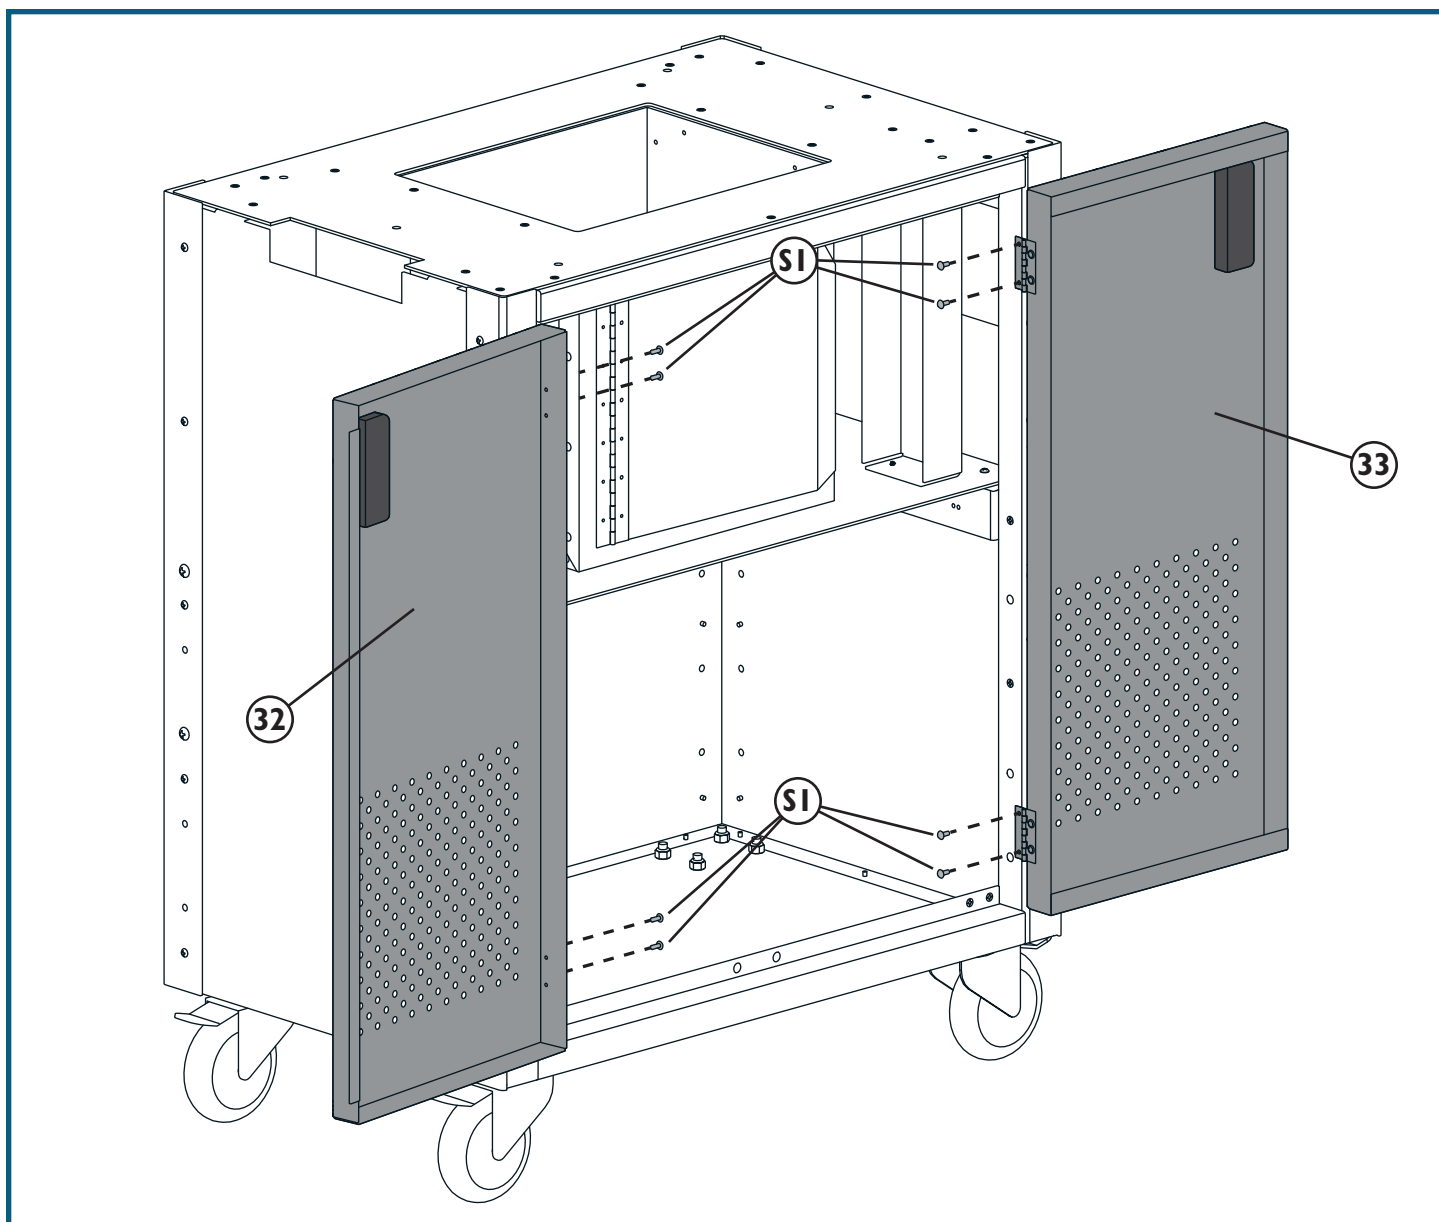

Fig. 22
4. To install the Left and Right Doors (32 and 33), open the top and bottom hinges on each and hold the door up to the Cabinet, aligning the mounting holes in the hinges with the mounting holes on the Front Corner Brackets. Secure the Doors to the Cabinet with two M4 x 3/8" Pan-Head Self-Tapping Screws (S1) in each hinge. **Fig. 22.**